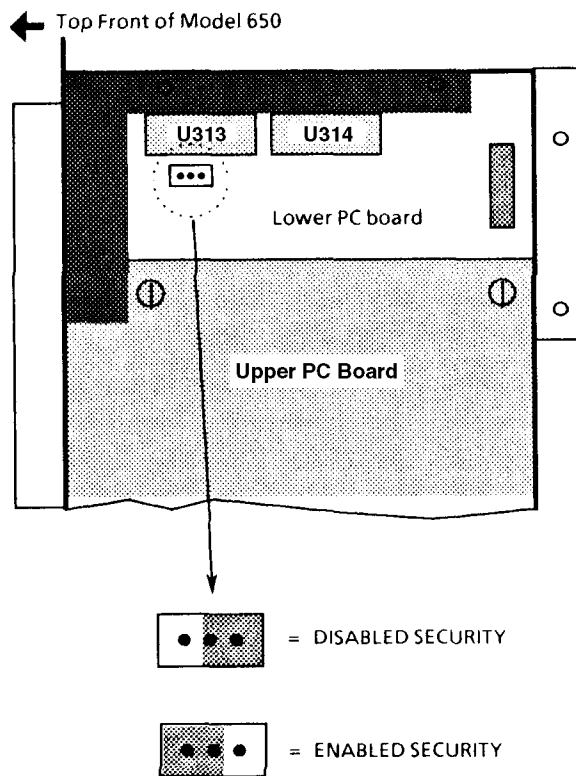

Figure 6.4 Hardware Security Jumper
Uses: Internal jumper, located on a three-pin header. The jumper is accessed by removing the Model 650's side plate. Refer to Figure 6.4.
The security jumper bridges the center pin of the three-pin header to *either* the left or right pin (see Figure 6.4). When the security jumper is in the **ENABLED** position, all ladder memory is protected from alteration of any kind. When **DISABLED**, ladder memory is accessible to the extent that other security methods allow. The **WRITE PROTECT LED** (Section 4.2) illuminates when the jumper is enabled.
4. Using a needlenose pliers, place jumper in the desired position (**ENABLED** or **DISABLED**) as shown in Figure 6.4. **DO NOT LEAVE THE JUMPER OFF OF THE HEADER.** It must be in one of the two positions.